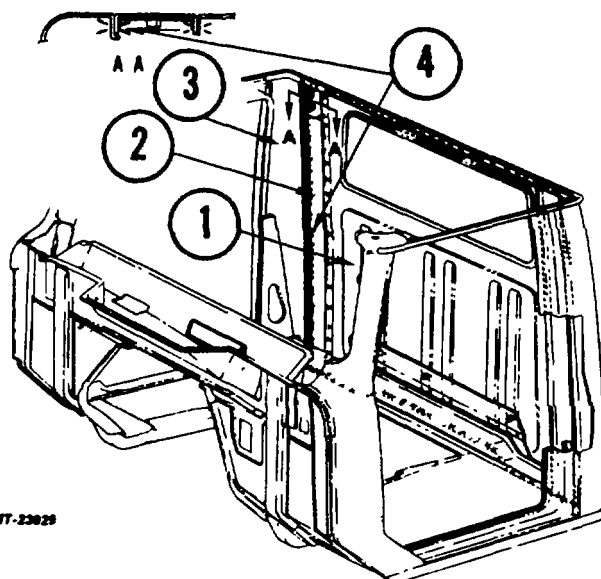

Fig. 40 Side Panel to Back Panel Spot Welds
4. Drill out spot welds along seam between back panel and side panel and separate rear of side panel from back panel (Fig. 40). Drill at outer seam.